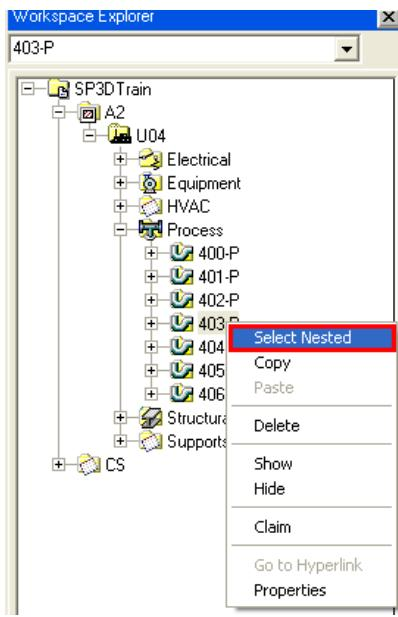

Figure 2: Workspace Explorer Window
3. Right-click the pipeline system **403-P** and click the **Select Nested** command in the menu, as shown in Figure 2, to select all the piping objects in the graphic view.